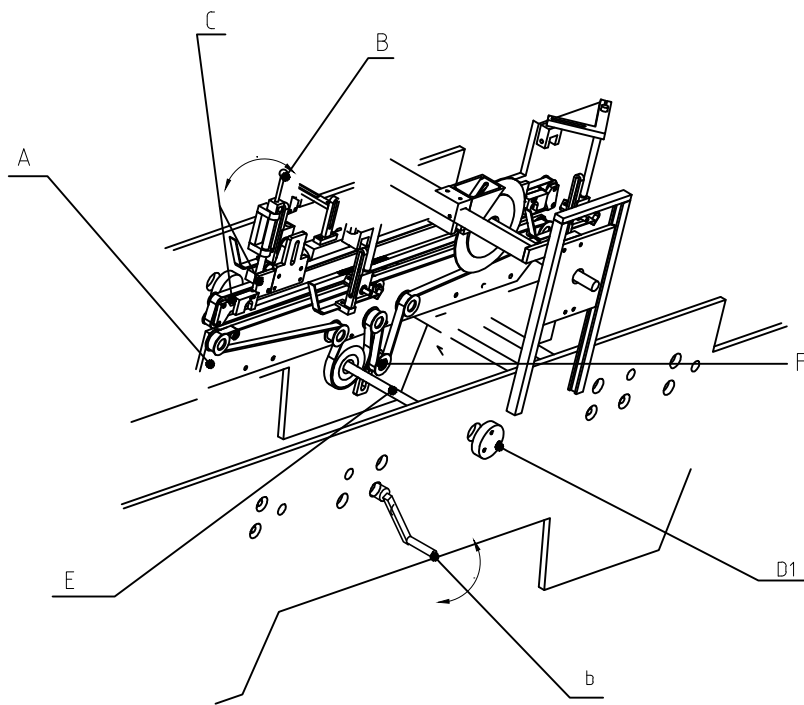

Fig 3-1
- ① Press down the jiggle bar (B) to raise subassemblies of bottom hooking unit, separate the bottom hooking base by jiggle bar b, see Fig.3-1.